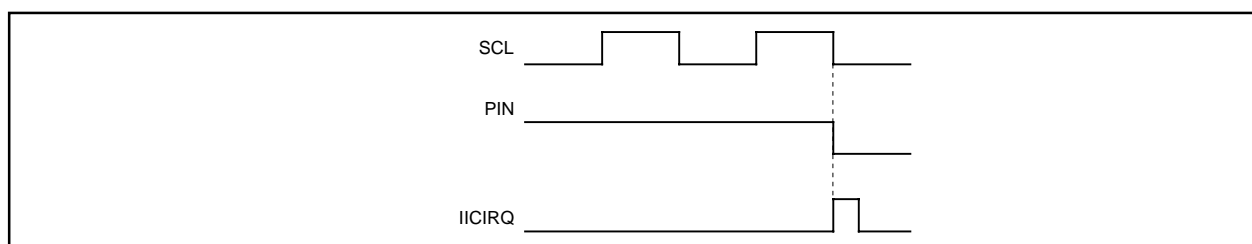

Fig. 2.11.41 Interrupt request signal generation timing
This bit generates an interrupt request signal. Each time 1-byte data is transmitted, the state of the PIN bit changes from “1” to “0.” At the same time, an interrupt request signal is sent to the CPU. The PIN bit is set to “0” in synchronization with a falling edge of the last clock (including the ACK clock) of an internal clock and an interrupt request signal occurs in synchronization with a falling edge of the PIN bit. When detecting the STOP condition in slave, the multi-master I²C-BUS interface interrupt request bit (IR) is set to “1” (interrupt requested) regardless of falling of PIN bit. When the PIN bit is “0,” the SCL is kept in the “0” state and clock generation is disabled. Figure 2.11.41 shows an interrupt request signal generating timing chart.